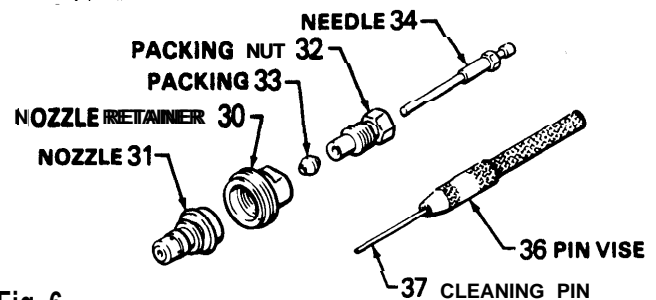

Fig 6
11. **Install** the needle/nozzle kit on the gun. The needle/nozzle kit includes the parts shown in Fig 6, except the pin vise (36) which holds the cleaning pin (37), and the nozzle retainer (30) which is part of the gun assembly.